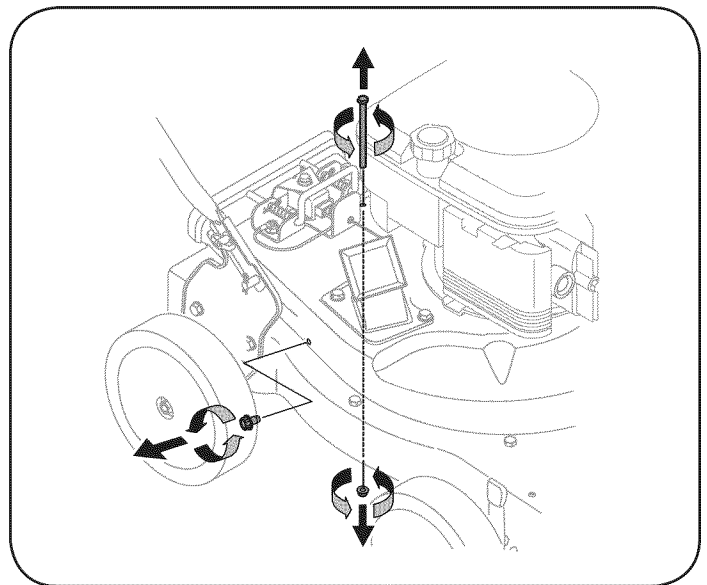

Figure 24
5. Remove self tapping screw on right side of unit that attaches to the flail screen. See Figure 24.
6. Remove hex screw on top of rear housing near mounting bracket and the flange lock nut that secures flail screen. See Figure 24.